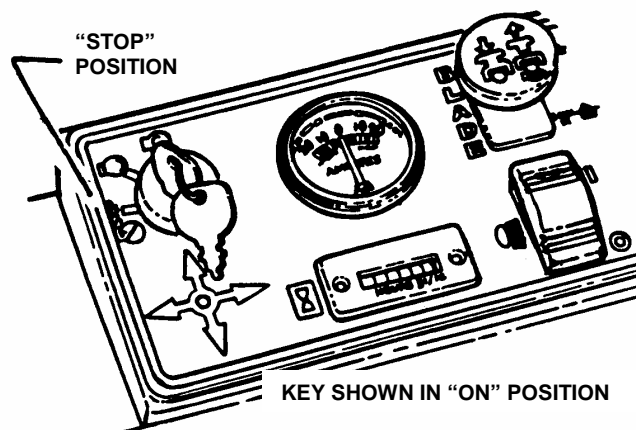

FIGURE 2.5
6. Turn key to the start position until engine starts. See Figure 2.5.
1. Stop engine by turning key to "STOP" position. Move engine speed to the Turtle "SLOW" position and turn key to "STOP". See Figure 2.5.